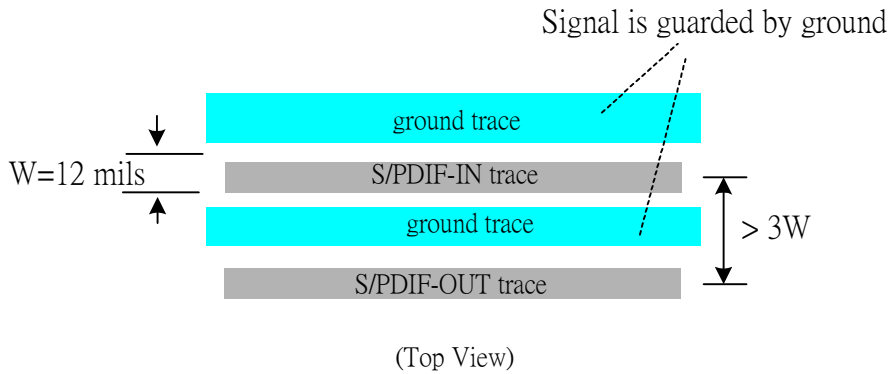

Figure 13-4 The 3-W rule to minimize coupling
4. A simple rule to minimize coupling between traces is the 3-W rule. The distance separation between centerline of traces must be three times the width of a single trace. (Figure 13-4)